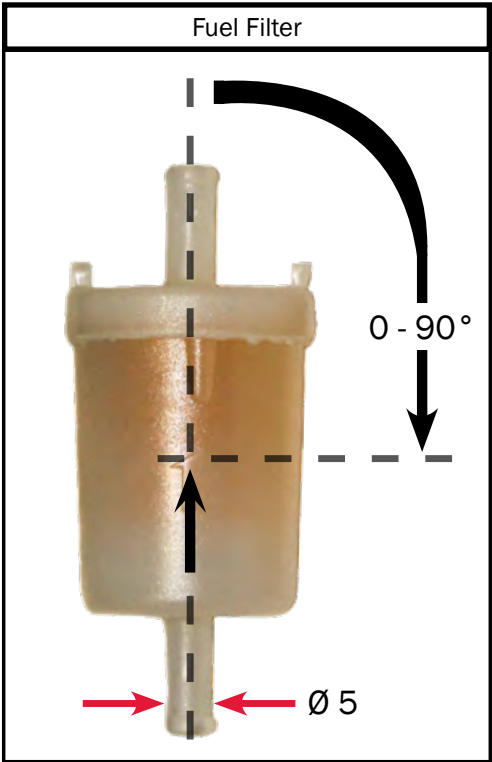

Figure 78
- The filter can be mounted vertically or horizontally; note the installation position and direction of flow (see Figure 78).